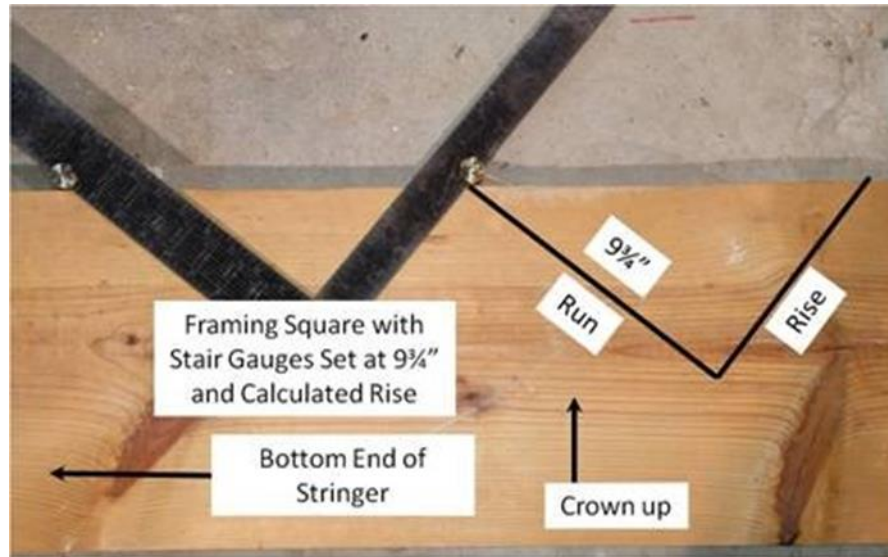

Figure 4-3. Stair Stringer Layout.
- Attach stair gauges to the framing square and locate the precise dimensions calculated in Section 4.5.1 for run and rise. If the rise is 7¾”, set the gauge to this dimension on the short side of the square; set the gauge to 9¾” on the long side of the square (see Figure 4-3).